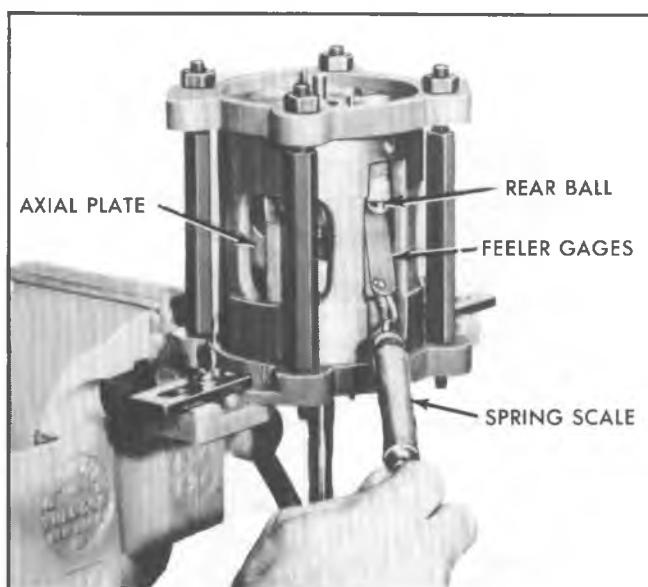

Fig. 40--Gaging Rear Piston Ball
c. Pull on Spring Scale to slide Feeler Gage stock out from between ball and axial plate, and note reading on Spring Scale as Feeler Gage is removed (Fig. 40). **Reading should be between 4 and 8 ounces.**